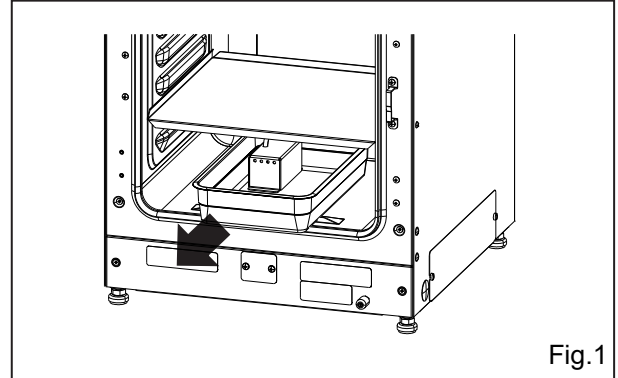

Fig.1
1. Pull out the humidifying pan (Fig. 1).